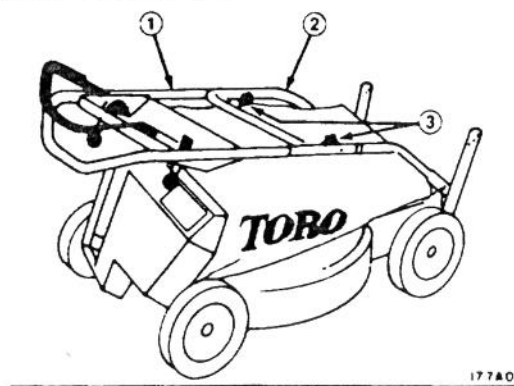

Figure 1
1. Align upper and lower handle. Tighten handle knobs (Fig. 1).